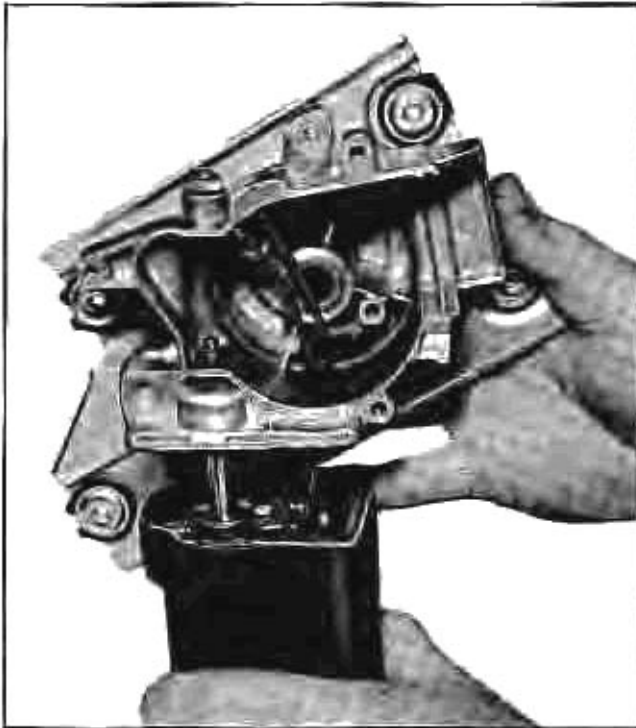

Fig. 11-106 Separate Gear Assembly and Motor
4. Holding the wiper (as shown in Fig. 11-106) lift gear assembly away from motor frame until it clears the armature worm.